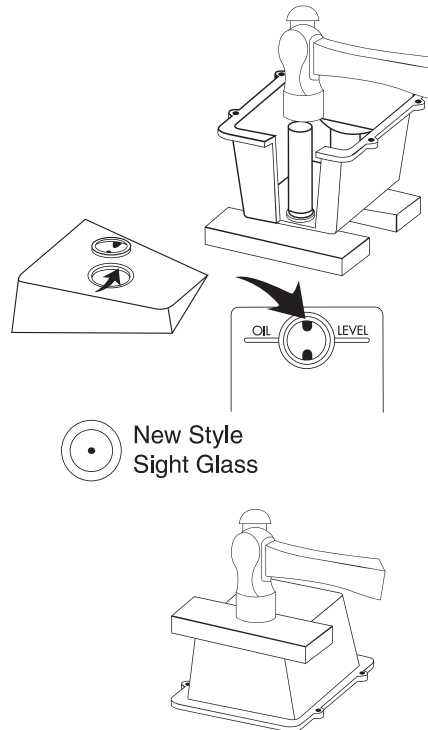

Figure 21
Step 1: With cover off of the pump, lay on two blocks of wood. Pop out the sight glass using a broom handle or other object as a punch. For DV-85 series, DV-142 series, or DV-200 series use a 1" diameter punch (**Figure 21**).